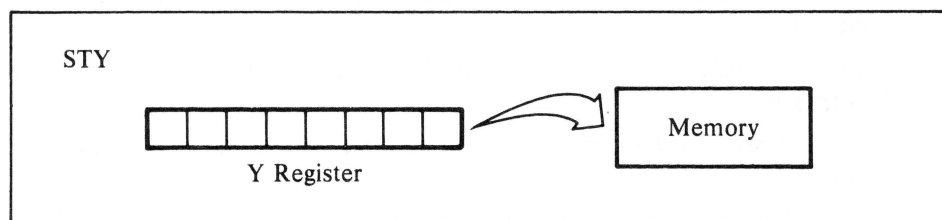

Figure 8-4. Store Y register in memory
- **STY** — Stores the value in the Y register into a specified memory location (see Figure 8-4).